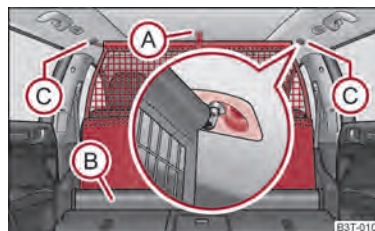

Fig. 83 Pull out the luggage net partition
- Pull the net partition at the bracket (A) ⇒ fig. 83 out of the housing (B)
- Insert the cross rod into the mount (C) first on the one side and push the cross rod forward.
- In the same way, fix the cross rod to the other side of the vehicle, mount (C).